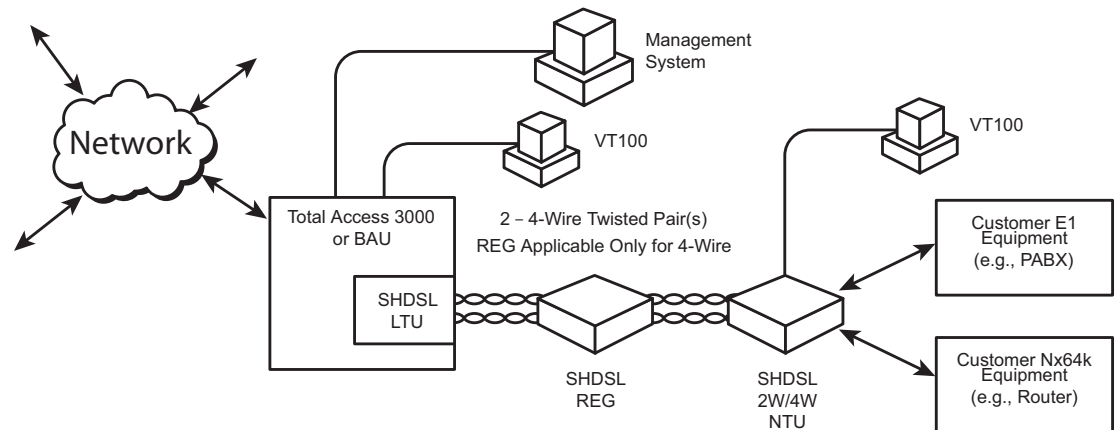

Figure 1. Typical System Application
- remote unit to the ADTRAN Total Access[®] 3000 multiservice platform (see Figure 1), or